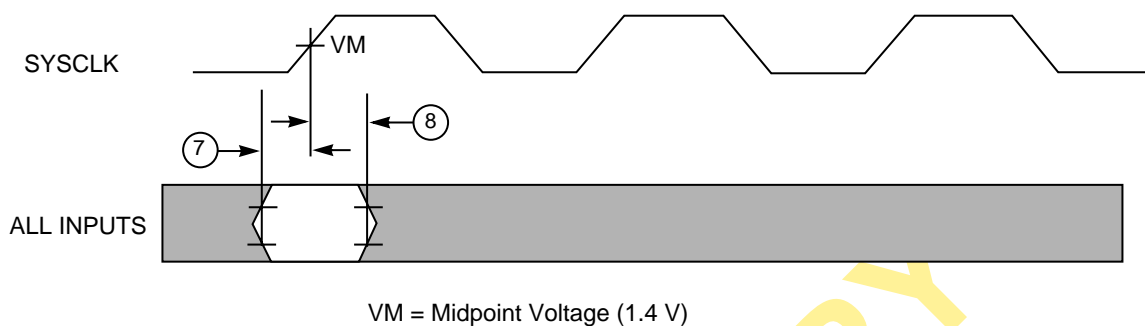
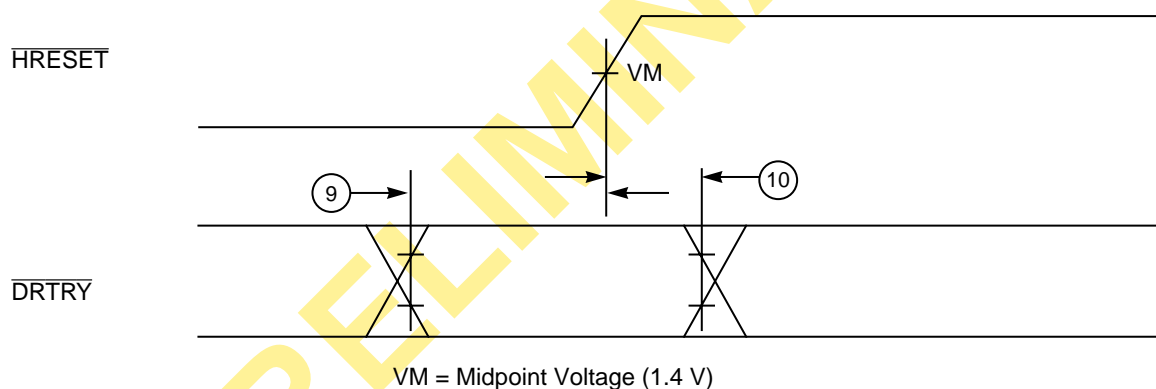

Figure 2. Input Timing Diagram
Figure 3. Mode Select Input Timing Diagram
Table 7 provides the input AC timing specifications as defined in Figure 2 and Figure 3 for 604e processors operating at 166.67, 180, 200, 225, and 233 MHz core frequencies.
1. Input specifications are measured from the TTL level (0.8 or 2.0 V) of the signal in question to the 1.4 V of the rising edge of the input SYSCLK. Input and output timings are measured at the pin (see Figure 2).
3. The setup and hold time is with respect to the rising edge of HRESET (see Figure 3).
Figure 2 provides the input timing diagram for the 604e.
Figure 3 provides the mode select input timing diagram for the 604e.